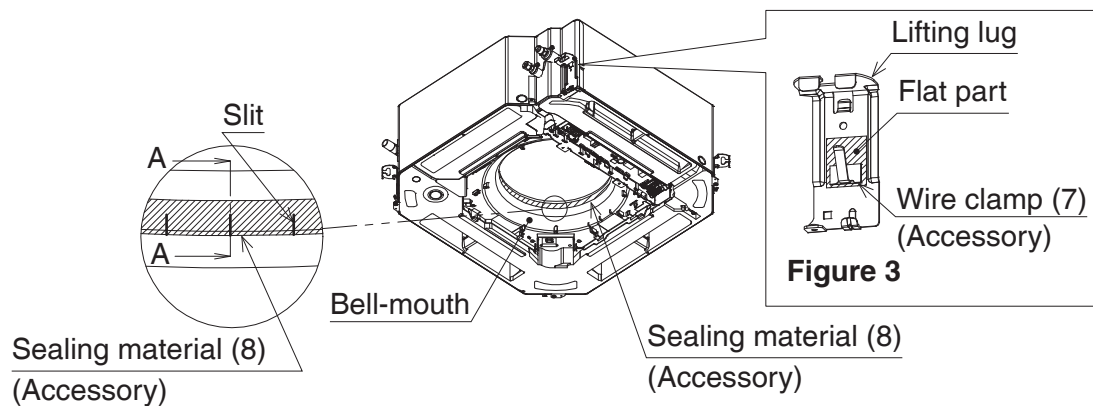

Figure 2
1. Wipe clean the bell-mouth of the indoor unit using a dry cloth or similar. (Refer to **Figure 2**.)
2. Attach sealing material (8) along the end of the bell-mouth radius (12 mm from the its tip) for the entire perimeter, making sure not to overlap the sealing material ends.